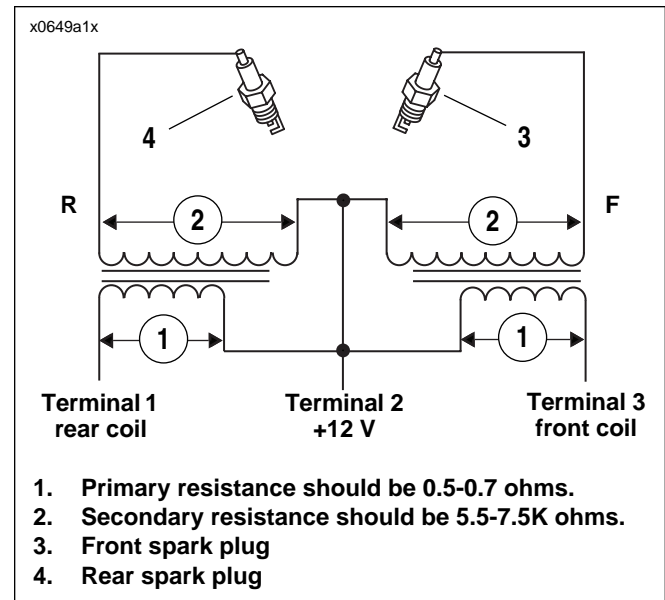

Figure 4-71. Ignition Coil Circuit
10. Carefully remove camshaft oil seal (15) if damaged or if there is any evidence of oil leakage past the seal. Figure 4-71.
3. See Figure 4-71. Using HARNESS CONNECTOR TEST KIT (Part No. HD-41404) gray socket probes, place multimeter wires on primary coil windings from terminal 1 to 2, and from terminal 2 to 3.
3. See Figure 4-71. Place multimeter wires on secondary coil windings from terminal 2 to R, and from terminal 2 to F.